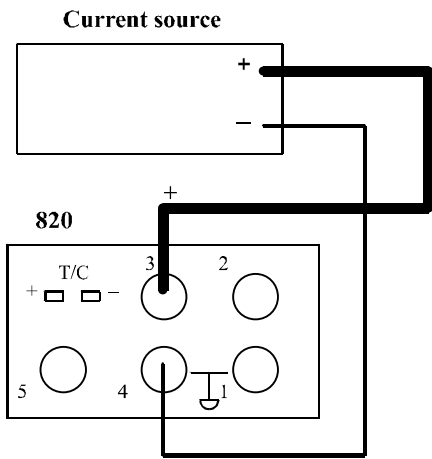

FIGURE 7
3. Hi Calibration: Connect a Current Source (Set to 20mA) to terminals 3 and 4 of the 820 (See figure 7). Press *STORE*; make sure you hear the beep, then press *SOURCE/READ*.